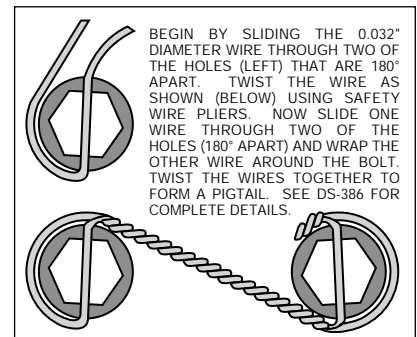

Figure 3. Safety Wire Diagram
- The rotor (3) has two sides. A flat side and an inset side. Bolt hat (2) to flat side of rotor (3) using lock washers (4) and bolts (5). Torque bolts (5) to 180 **in-lb**. Safety wire bolts (5) using standard 0.032 inch diameter stainless steel safety wire as shown in Figure 3. Please refer to Wilwood's data sheet DS-386 (available at www.wilwood.com/pdf/ds386.pdf) for complete safety wire installation instructions.